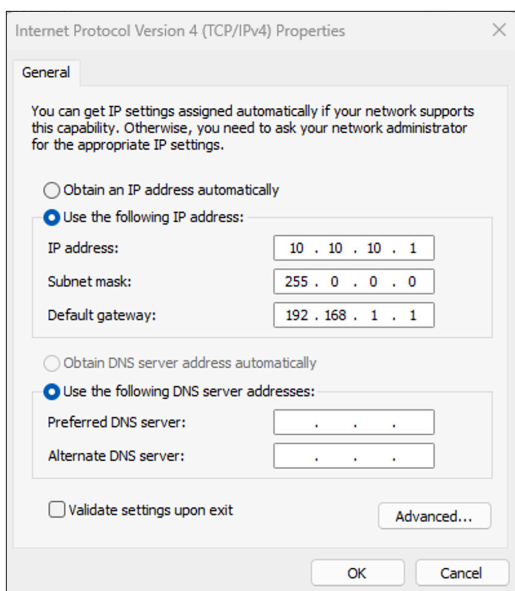

Fig. 117—Subnet mask and gateway are set automatically.
6. On the IP entry box enter *10.10.10.1* and then press *Tab*. The other values are automatically set (Fig. 117).